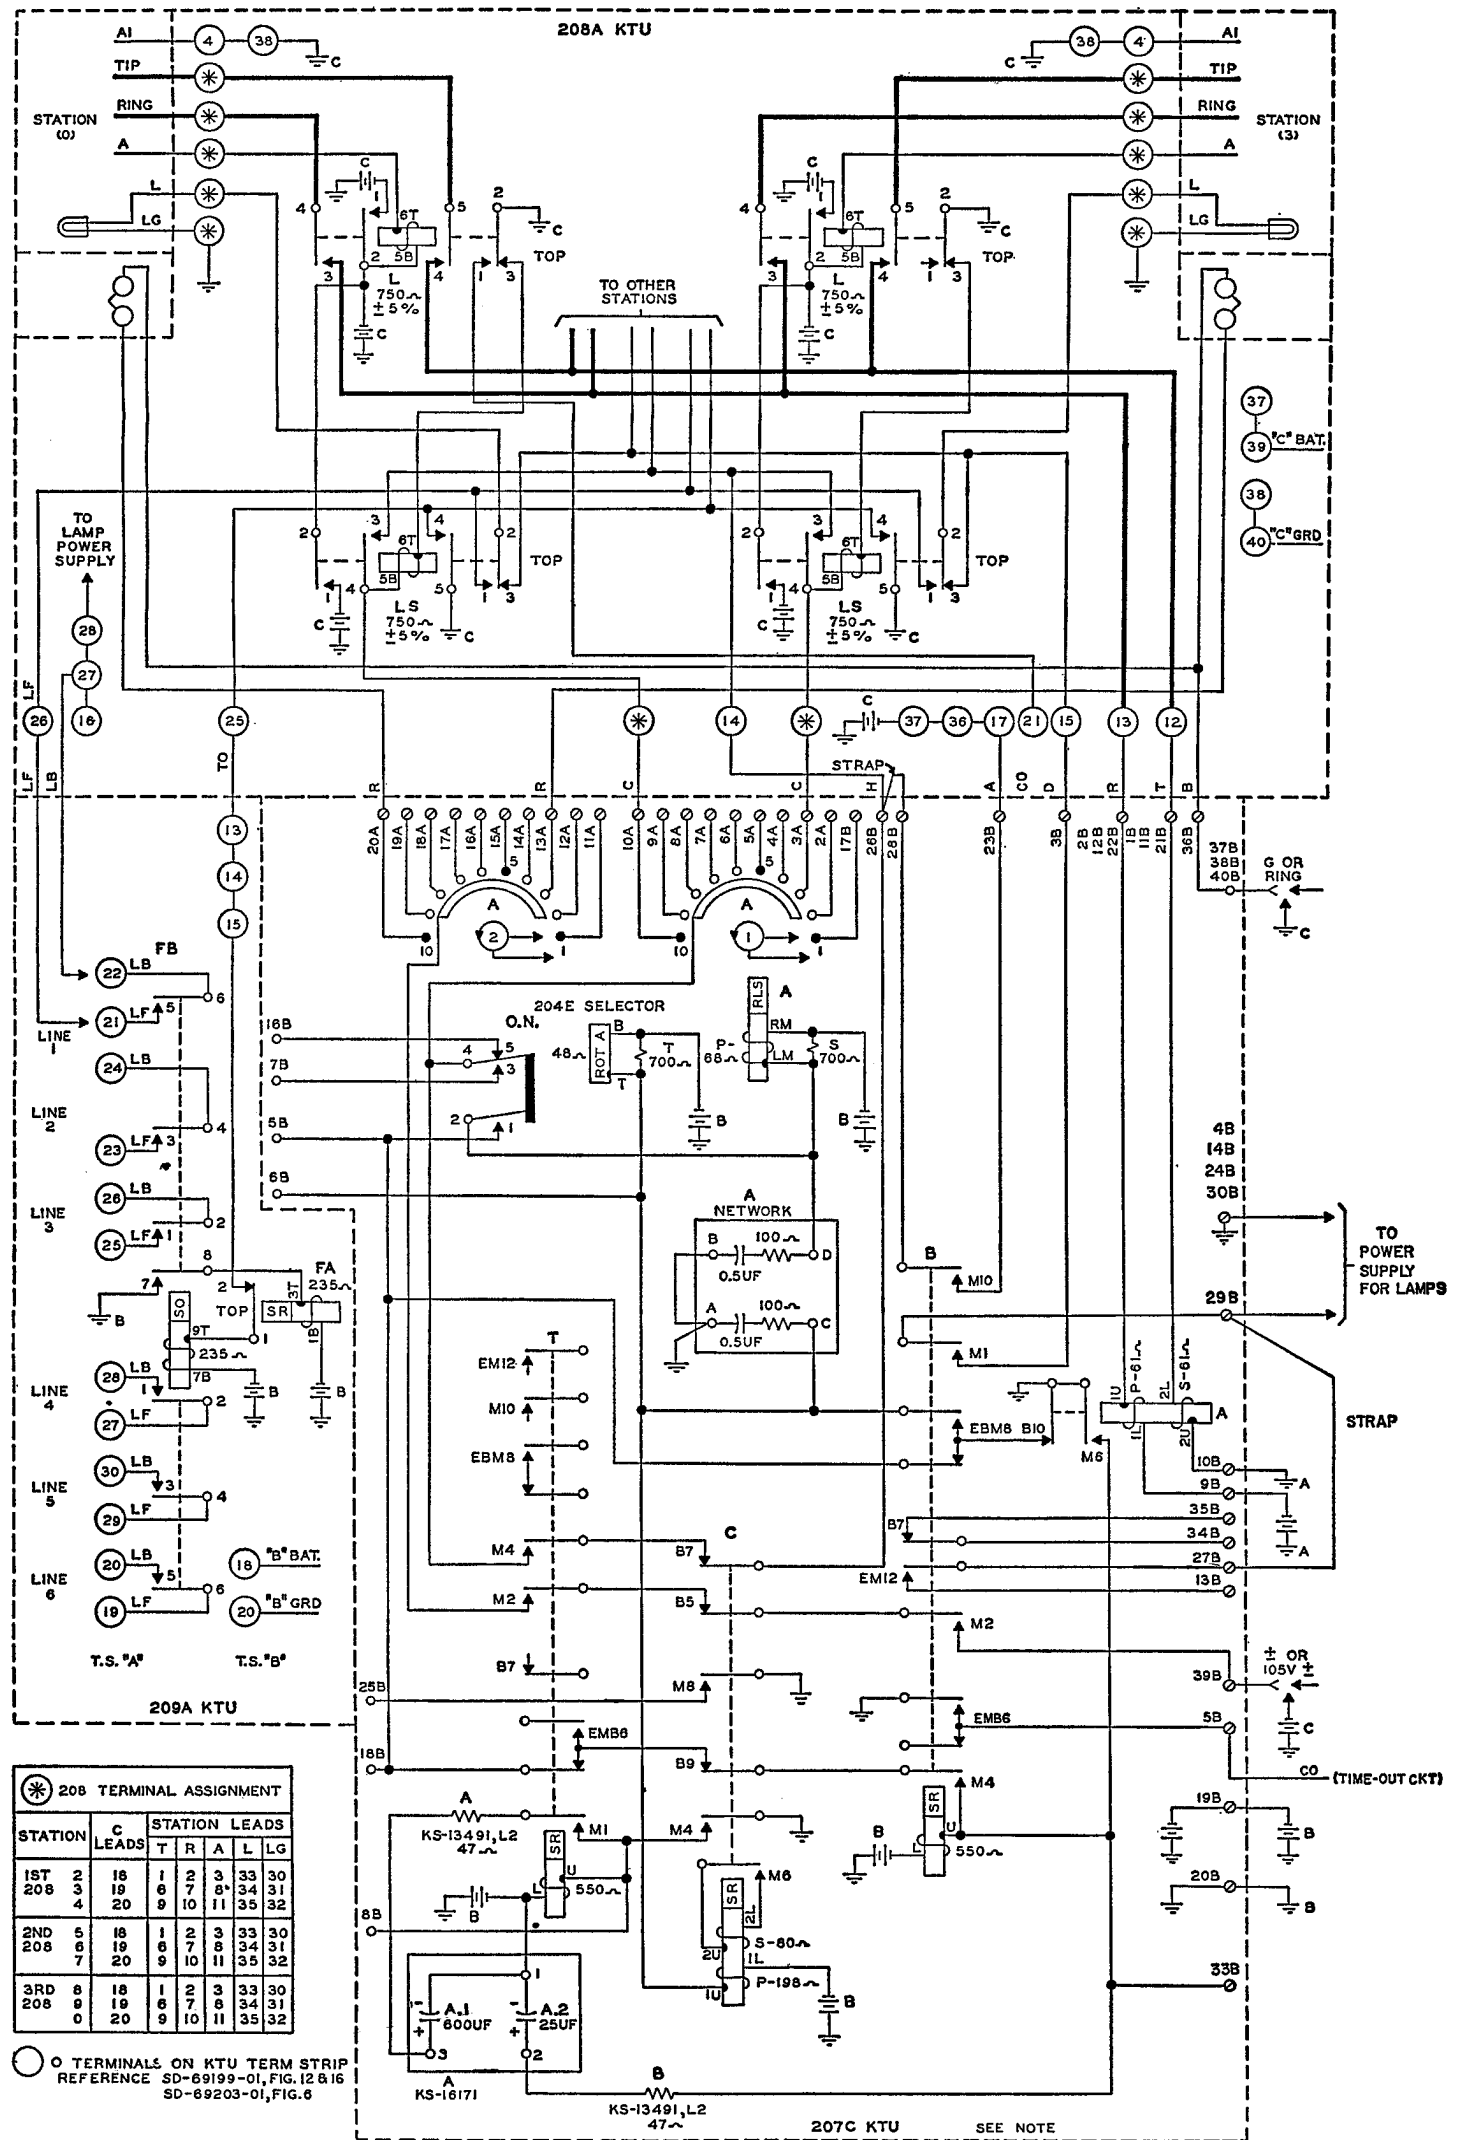

Fig. 1 — Dial Selective Intercom Line Circuit with Flashing Line Lamps — 207B, 207C, 208A, and 209A KTU Circuit
2.02 The connection drawing is supplemented by a feature circuit drawing (see Fig. 1). This drawing has been included as an aid for clearing possible cases of trouble which might be encountered.